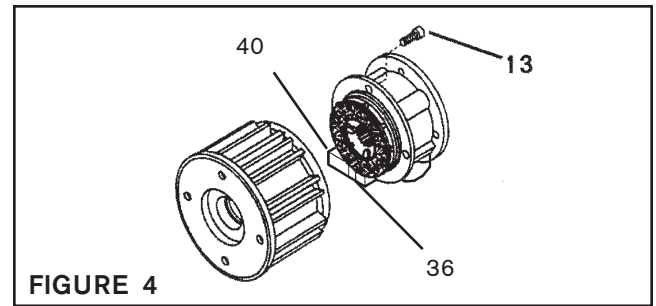

FIGURE 4
2. Install the gasket included with the DIN Connector (See Figure 4, Item 40) onto the Solenoid Valve (Item 36).